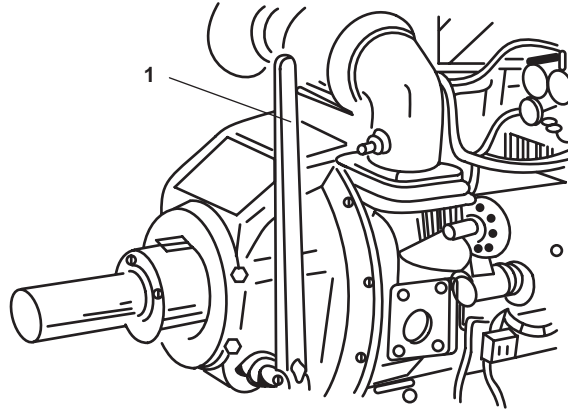

Figure 5. Pump Drive Engine PTO
- a. Place the Power Take-Off (PTO) control lever (figure 5, item 1) in the disengaged (aft) position.
- b. Place the PTO lever (figure 5, item 1) in the engaged (forward) position.
- b. Place the power take-off control lever (figure 5, item 1) in the disengaged (aft) position.